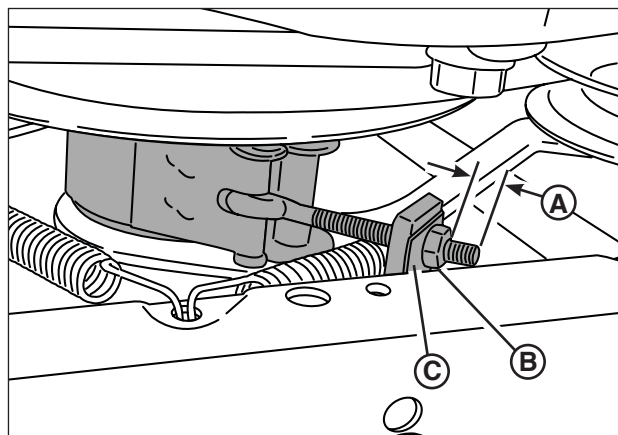

Figure 42: Blade brake adjustment
3. With the unit off, remove the deck cover (refer to "How To Remove The Deck Cover"), and measure the exposed thread of the blade brake eyebolt (A, Figure 42) from the jam nut to the end of the bolt. It should measure 1/2".
4. If the eyebolt thread measures less than 1/2", loosen the jam nut (B), and tighten the T-bolt (C) one-half turn (clockwise). Retighten the jam nut, and remeasure the thread. Repeat until the correct thread measurement is achieved, then proceed directly to Step 6.
5. If the eyebolt thread measurement is correct, loosen the jam nut (B), and tighten the T-bolt (C) one-half turn (clockwise). Retighten the jam nut, then proceed to Step 6.